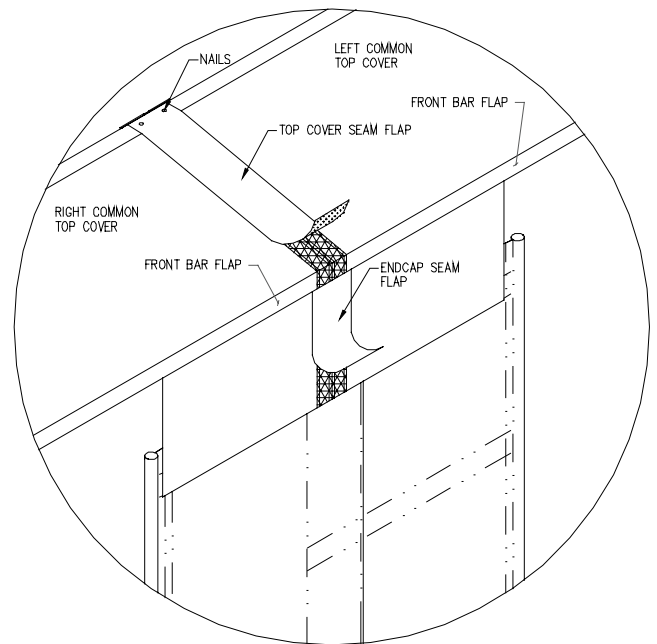

FIGURE 10
10. Attach the endcap seam flap. (See Figure 10) Do this by centering it between the two vertical hook and loop strips sewn on the endcaps front face. Starting at the bottom, align the seam flap to the bottom of the endcap and go up. Do not lay seam flap completely flat, but allow some slack between the hook and loop seams for header movement. The seam flap should tuck under the front bar flaps on canopy covers. The face curtains will mount under the front bar flaps, but over top of the endcaps and the seam.
12. Attach the top cover seam flap. (See Figure 10) This seam flap needs to go from the canopy back edge at wall, and follow the hook and loop on the top cover down and over front bar flap. Do not lay seam flap completely flat, but allow some slack between the hook and loop seams for header up and down movement. The end of the seam flap should end up even with the edge of the front bar flap. Adjust and trim at building wall if necessary.
13. Nail the back of the top cover seam flap at the building wall. Put (1) nail on each side into the header backer boards of each canopy. (See Figure 10)